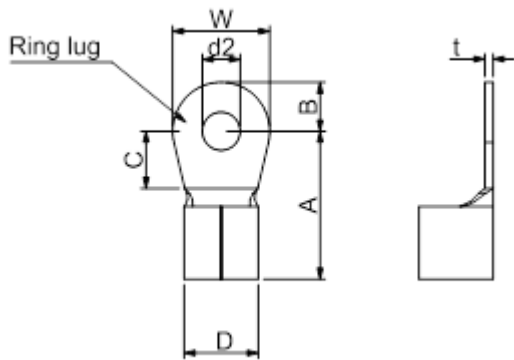
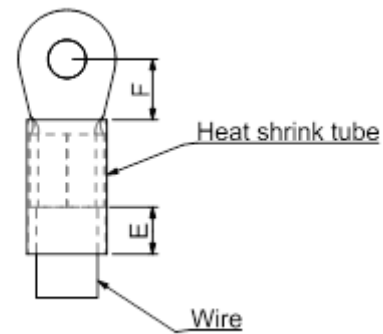

Figure 5-6
Figure 5-7
See Figure 5-6 and Figure 5-7 for ring lug specifications. For other types of wiring, use the wires that comply with the local regulations.
- After crimping the wire to the ring lug (must be UL and CSA approved R/C (YDPU2)), install heat shrink tubing rated at a minimum of 600 V_{AC} insulation over the live part. Refer to Figure 5-7.